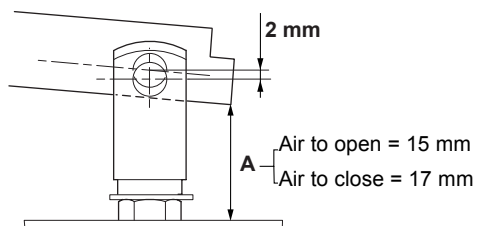

Figure 16 - Adjusting the lever (113)
- C. Press the lever on the actuator side to check for plug/seat ring leaks at ΔP 3.5 barg (50 psig). If the valve is equipped with a handwheel, lever (113) should not touch lever arm stop (122). If the valve leaks, release the pressure at the inlet and remove pin (18) of clevis (104a), then loosen nut (103). Loosen the plug stem in order to move the clevis up (104a). A complete turn moves the position up by 1 mm. Then tighten the locknut (103) again.
- D. Check that the distance between clevis (104b) pin and the hole in lever (113) is approximately 2 mm. If necessary, adjust the position of clevis (104a) to obtain this distance, see figure 16. This value provides the initial compression of actuator spring (134).
- E. Admit enough air pressure to the actuator to drive piston clevis (104b) upwards. Couple the clevis to lever (113) using pin (124).
- F. Release the actuator pressure and repeat the plug/seat ring leak test at ΔP 3.5 barg (50 psig). Dimension A should be the same as in figure 16.